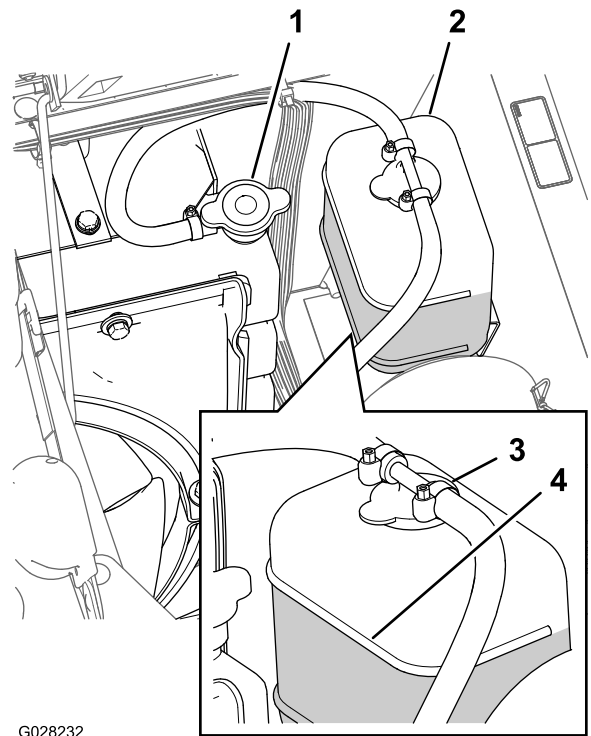

Figure 86
3. Carefully remove the radiator cap and the expansion-tank cap (Figure 86).
**Note:** The radiator should be filled to the top of the filler neck and the expansion tank filled to the Full mark on the tank (Figure 86).
5. If the coolant level is low, remove the expansion-tank cap and the radiator cap, and fill the expansion tank to the Full mark and the radiator to the top of the filler neck (Figure 86).
6. Install the radiator cap and the expansion-tank cap (Figure 86).
2. Wait until the engine is cool, then remove the radiator cap (Figure 86).
6. Remove the radiator cap (Figure 86).
8. Start the engine with the cap loose on the radiator (Figure 86).
10. Once the coolant has warmed up, top off the coolant level to the sealing surface of the cap and tighten the cap (Figure 86).
11. Open the expansion-tank cap and fill the tank with coolant to the Cold level (Figure 86).